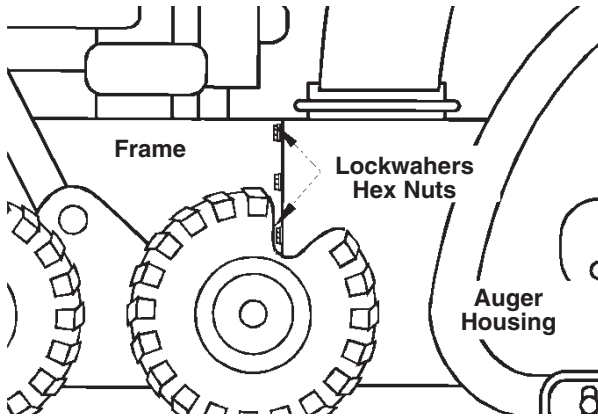

FIGURE 6.
2. Remove the four remaining lockwashers and hex nuts which attach the auger housing assembly to the frame. See figure 6.